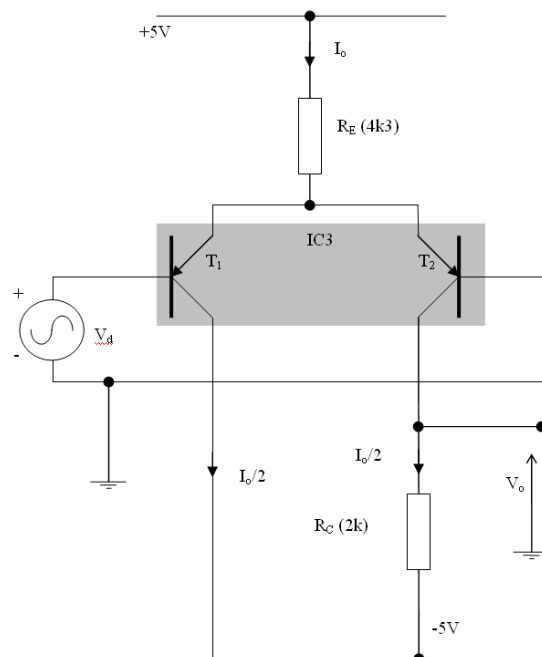

Figure 11 The long tailed pair
Probably the most important input stage used in amplifier design is the emitter-coupled differential amplifier, better known as the Long Tailed Pair (LTP). It is a directly coupled amplifier with high differential-mode voltage gain, but has a low voltage gain to common-mode input signals (such as noise appearing on the two inputs). Figure 11 shows a typical LTP amplifier.
- v. The joint collectors of $T_{1(6)}$ and $T_{2(6)}$ of Block (2) should now be connected to the base-collector connection of $T_{1(9)}$ in Block (3). This forms the driver source of Block (3).
- vi. The collector of $T_{2(5)}$ in block (2) should also be connected to the base-collector of $T_{1(7)}$ in block (3). Remember that the value of R_2 should be chosen to supply a collector current of 1 mA to $T_{1(7)}$.
- vii. Note that in going from Figure 11 to Figure 2, the inverting and non-inverting inputs have become swapped round (why?).